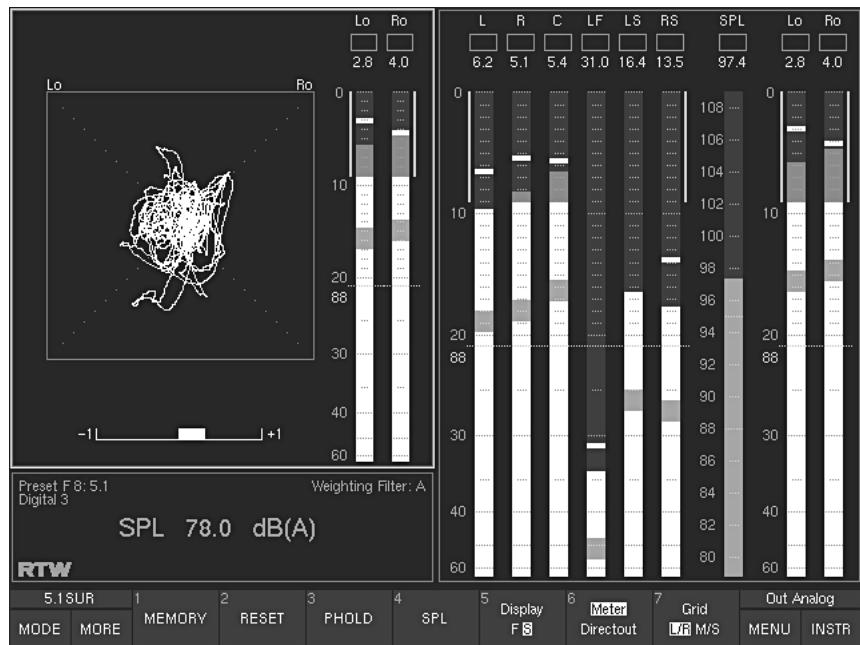

Fig. 5-29: The screen display with DOWNMIX instrument selected
(Button/key 1, see Fig. 5-29)
(Button/key 2, see Fig. 5-29)
(Button/key 3, see Fig. 5-29)
(Button/key 4, see Fig. 5-29)
(Button/key 5, see Fig. 5-29)
(Button/key 6, see Fig. 5-29)
(Button/key 7, see Fig. 5-29)